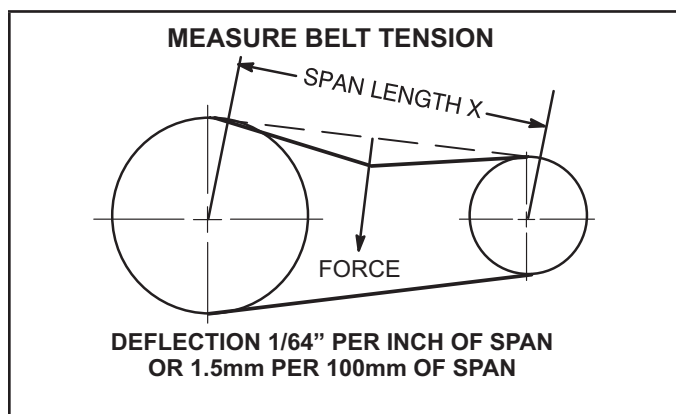

FIGURE 10
- 1 - Measure span length X. See FIGURE 10.
- 2 - Apply perpendicular force to center of span (X) with enough pressure to deflect belt 1/64" for every inch of span length or 1.5mm per 100mm of span length.
Flame rollout limit switch S47 is a SPST N.C. high temperature limit located just above the burner air intake opening in the burner enclosures (see figure 10). S47 is wired to the ignition control A3. When S47 senses flame rollout (indicating a blockage in the combustion air passages), the flame rollout limit trips and the ignition control immediately closes the gas valve.